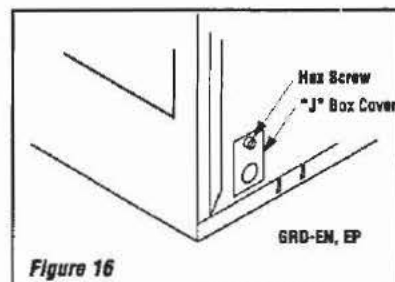

Figure 16
1. Remove the junction box cover (*Figure 16*) by removing the hex head screw. The junction box cover has a 7/8 inch (22mm) knockout hole for a conduit busing. Route a 3-wire 120Vac 60Hz 1ph power supply to the appliance junction box (*Figure 18 on page 9*).